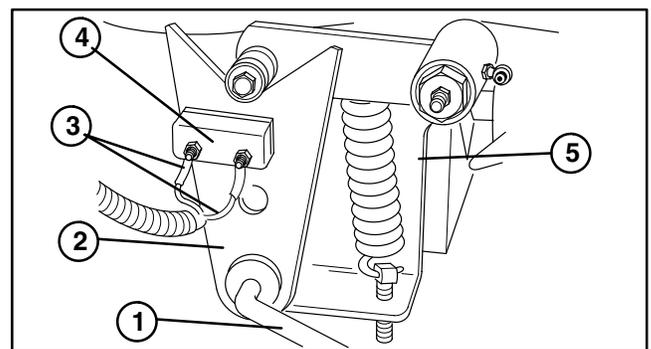

Figure 32
4. Remove cotter pin and flat washer securing the pump control rod to the pump lever. Pull control rod from the pump lever (Fig. 32).
5. Label electrical wires. Disconnect wires from the neutral switch (Fig. 32).
6. Remove cap screw and lock nut securing the pump lever to the hydrostat trunnion (Fig. 32).
7. Remove three cap screws securing the pump plate to the hydrostat while pulling the pump plate from the hydrostat (Fig. 32).
10. Clamp suction hose (8) to prevent draining the hydraulic tank.
12. Remove suction hose (8) from push on fitting (10). Allow fluid to drain from the hose into the container.
13. Remove hydraulic hoses (4 and 5) and O-rings (29) from the hydrostat. Allow fluid to drain from the hoses into the container.
15. Loosen both set screws (20) from hydrostat shaft.
16. Support hydrostat to prevent dropping during removal. Remove both hex nuts (27), lock washers (28), cap screws (6) from the hydrostat (9) and pump mount (25). Pull hydrostat from mount and machine.
17. Remove woodruff key (26) from hydrostat shaft.
2. Reinstall O-rings (32) and hydraulic fittings (12 and 13) to the hydrostat. Observe match marks when tightening.
4. Install woodruff key (26) to hydrostat shaft. Support hydrostat (9) while positioning onto pump mount (25). Make sure woodruff key (26) stays in place when the shaft is inserted into the pump hub (24).
5. Secure hydrostat to mount with both cap screws (6), lock washers (28), hex nuts (27). Tighten set screw (20) to hydrostat shaft.
8. Reinstall hose clamp (30) and suction hose (8) to push on fitting (10). Tighten hose clamp.
9. Remove clamp used to prevent draining the hydraulic tank from suction hose (8).
10. Reinstall hydraulic hoses (4 and 5) and O-rings (29) to hydrostat (9).
11. Secure pump plate to the hydrostat with three cap screws. Tighten cap screws while attaching the pump plate to the hydrostat (Fig. 32).
12. Align pump lever to the hydrostat trunnion. Secure pump lever to the hydrostat trunnion with cap screw and lock nut (Fig. 32).
13. Reconnect wires to the neutral switch (Fig. 32).
14. Insert control rod into the pump lever. Secure pump control rod to the pump lever with flat washer and cotter pin (Fig. 32).